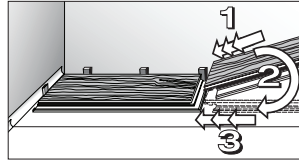

Figure 5
- Install second and subsequent full pieces in the first row by aligning short ends of boards and locking into place (Fig. 5).
- Use spacers along all sides that butt up against walls to maintain a 1/4" (6.35 mm) expansion zone (Figs. 5 & 6).